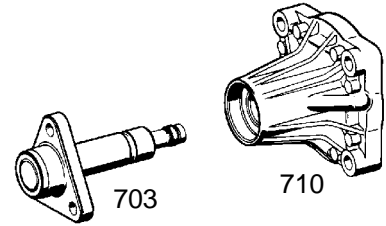

Fig. 20
Insert shaft (703) into the housing (710) (**Fig. 20**).